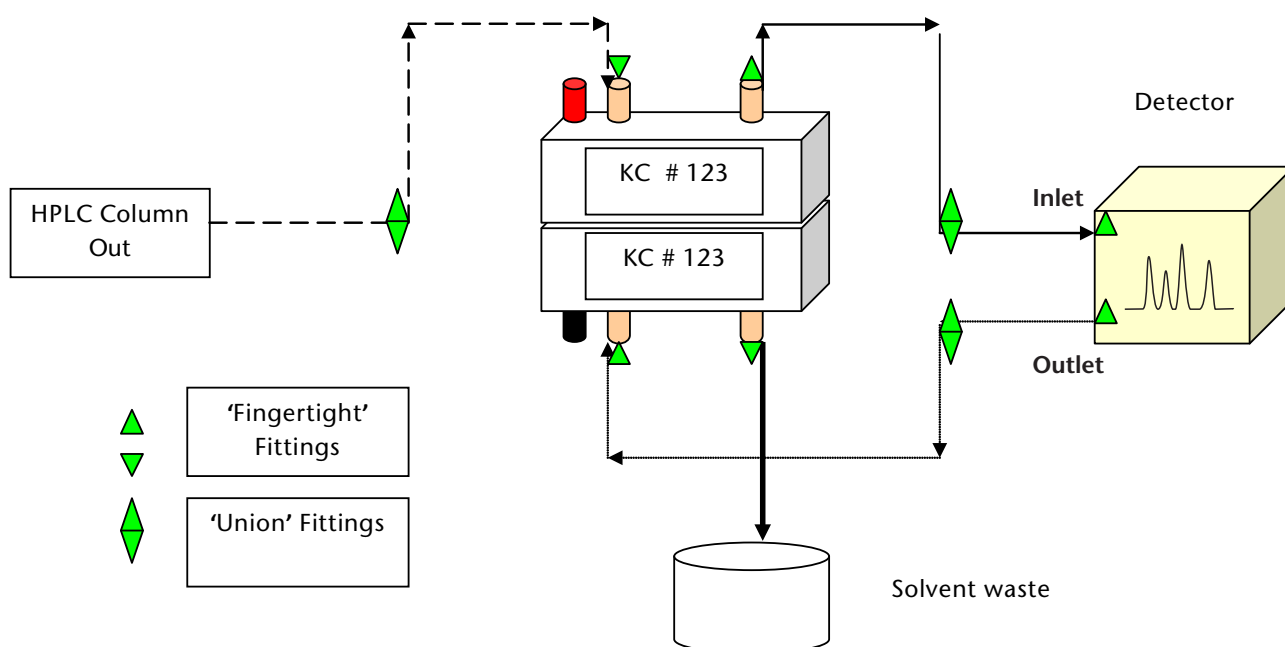

Fig 6. KOBRA® CELL Switched On for Analysis
9. Reconnect the KOBRA® CELL (Fig. 6).
- Check the KOBRA® CELL is connected correctly to the HPLC (Fig 6).